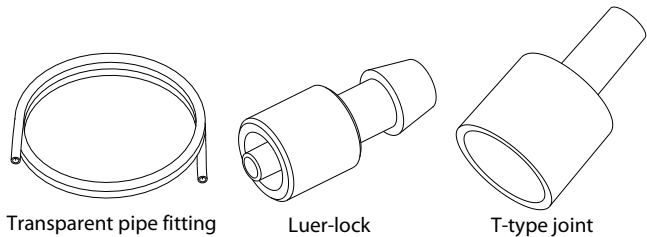
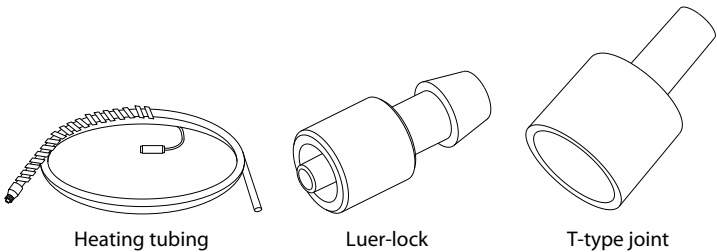

Figure 5-1 Disassembly of the insufflator tube
Figure 5-2 Disassembly of the heating insufflator tube
1. Disassemble the pipe fitting to its basic structure. As shown in Figure 5-1, Figure 5-2, and Figure 5-3.